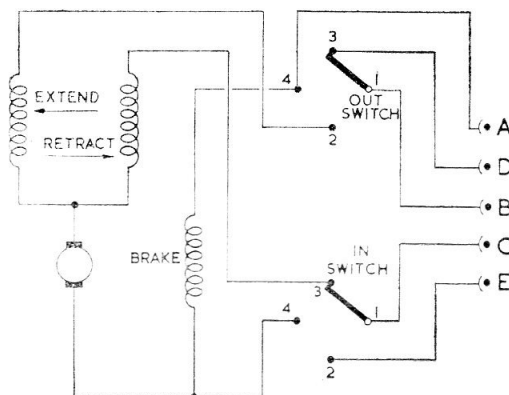

Fig. 3. Wiring diagram
extended position, with the "OUT" limit switch "OPEN" and the "IN" limit switch "CLOSED"; as shown in fig. 3. The brake shoes, under these conditions, are held against the brake drum by their loading springs. When the external selector switch is operated, current flows through the "IN" limit switch, through the brake coil, armature and the "retract" field coil. The energized brake coil attracts the brake shoes against the tension of the springs, allowing the armature, and through the clutch, the brake drum to revolve.
11. The sun gear on the brake drum transmits the movement through the gear train to the ram which retracts until (actuated by a limit switch cam) the "IN" limit switch opens and breaks the supply. At any intermediate position both limit switches are closed; i.e., the "IN" limit switch being at position 3 (fig. 3) and the "OUT" limit switch being at position 2. Operation of the external selector switch will now extend or retract the ram as required.
4. The connection plug positions for the A1001/3, /3A and /3B are as shown in fig. 3 of the main chapter.
4. The connection plug positions for the A1002/3, /3A and /3B are as shown in fig. 3 of the main chapter.